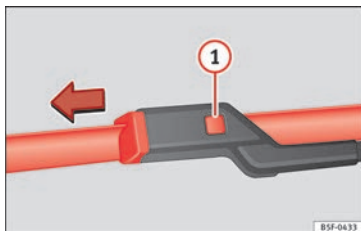

Fig. 80 Changing the windscreen wiper blades
- Press and hold release button » **Fig. 80 ❶** and pull gently on the wiper blade in the direction of the arrow.